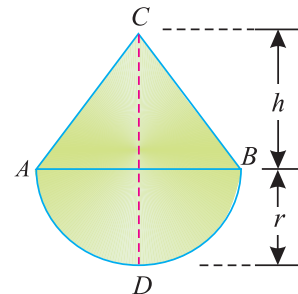

Fig. 6.19.
**Solution.** As the body is symmetrical about Y-Y axis, therefore its centre of gravity will lie on this axis as shown in Fig. 6.19. Now consider two parts of the body viz., hemisphere and cone. Let bottom of the hemisphere (D) be the axis of reference.